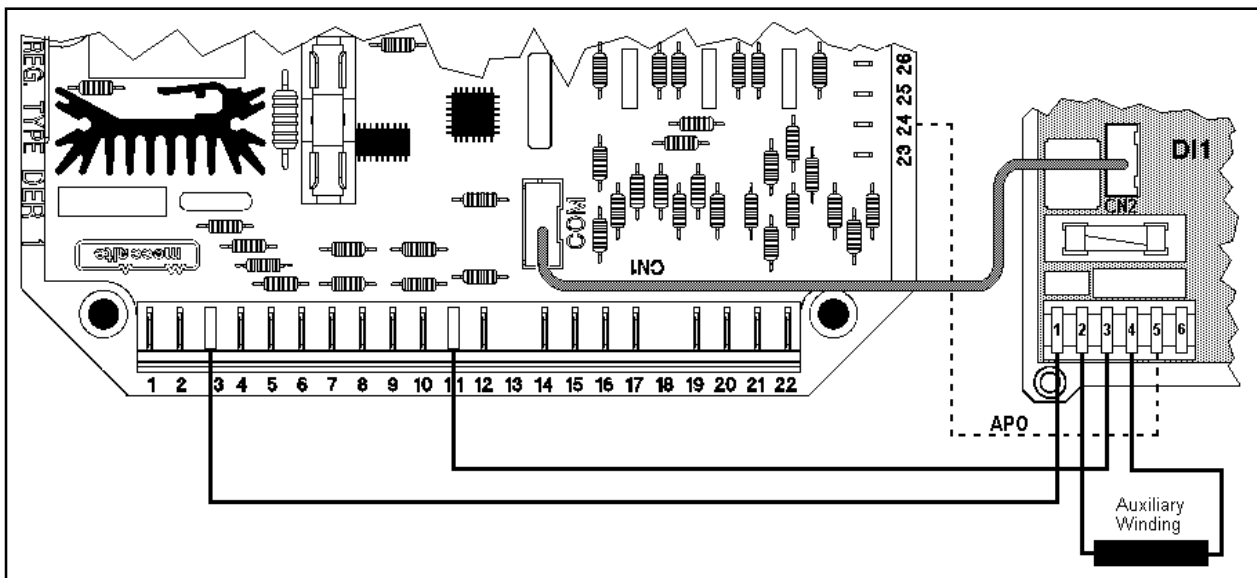

fig. 11: Example of power and connection (optional) of APO signal
The DI1 interface also permits isolation of the A.P.O. contact of the regulator : terminal 24 of the DER1 must be connected to terminal 5 of CN1 (as indicated with the dotted line in fig. 11).
- 1) On connector CN1 (terminals 1-2 and 3-4)(1) through the same power as the DSR/DER1; for this purpose, the power terminals on CN1 have been duplicated (Fig. 11)
2. **Settings** opens a window (as shown in figure 11), through which several parameters, concerning communications, can be set: